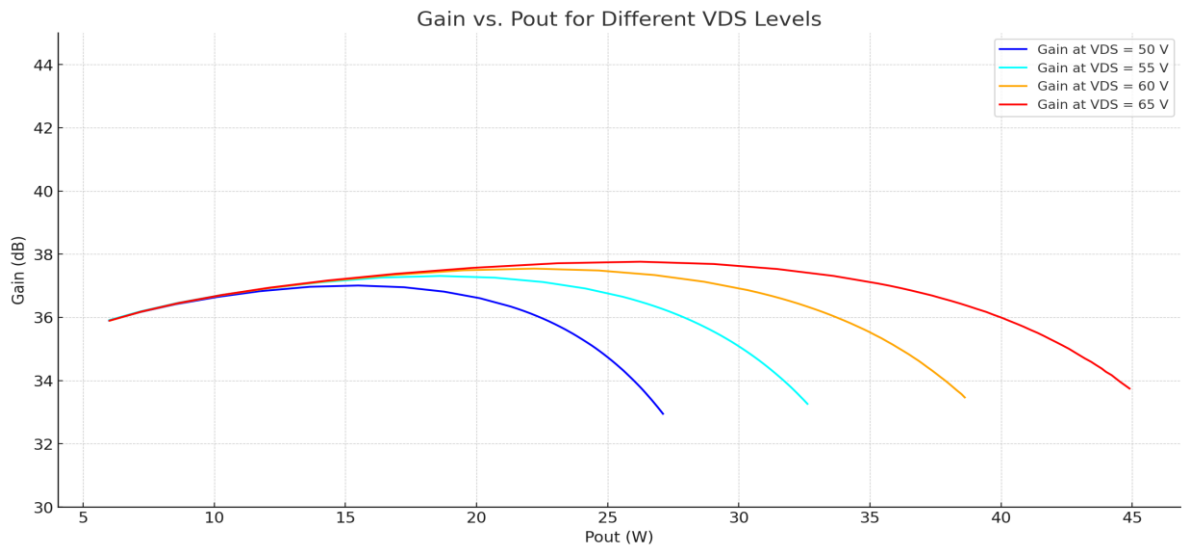

Figure 6 Efficiency and Gain vs Output Power at different VDS levels
- Figure 6 Efficiency and Gain vs Output Power at different VDS levels 6